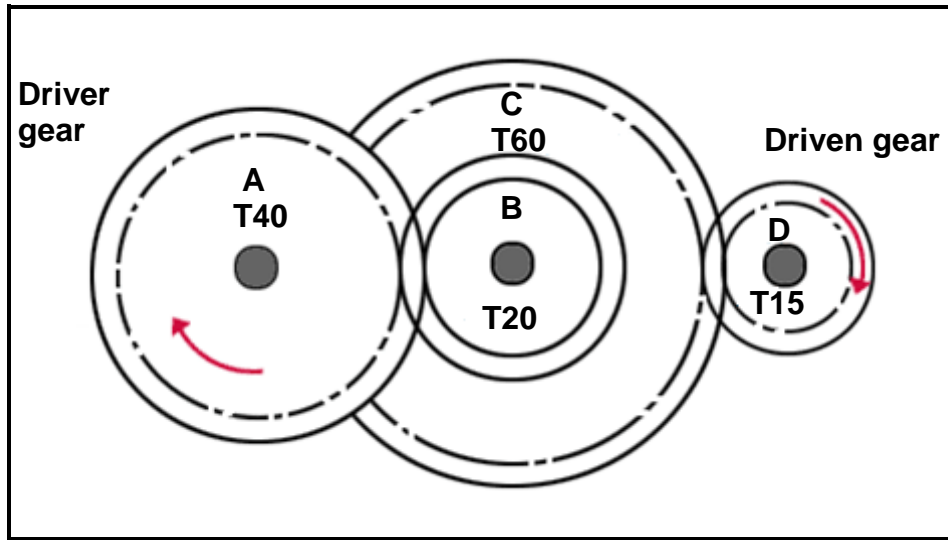

FIGURE 1.5
- D It rotates the shaft at a low speed. (1)
1.16 What is the gear ratio of the gear system in FIGURE 1.5 below?